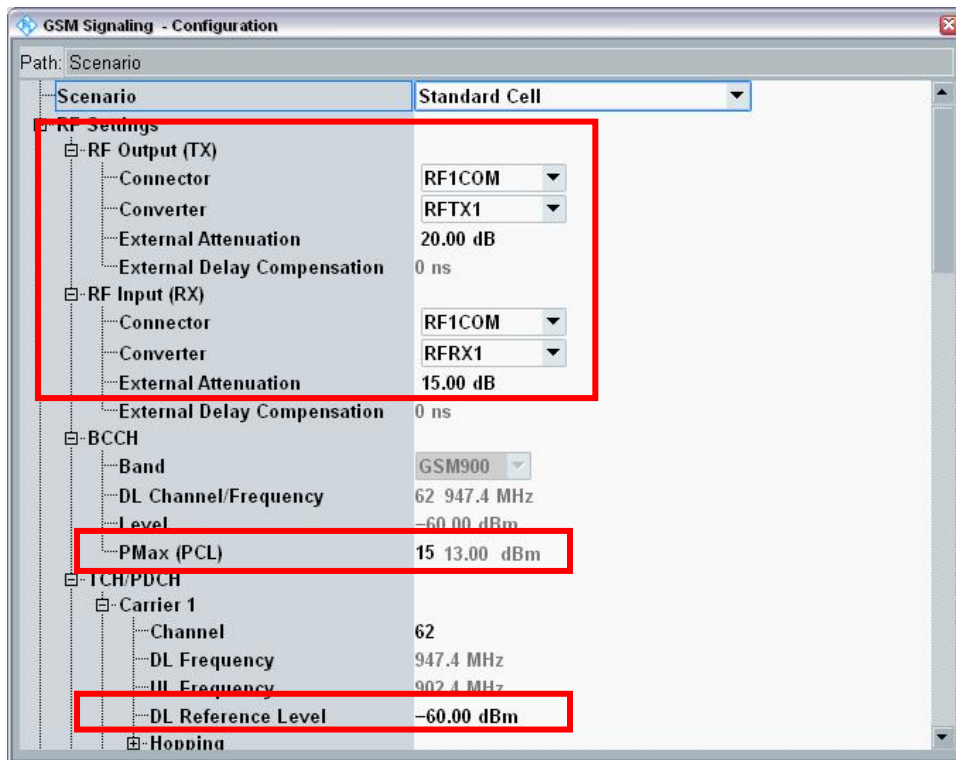

Figure 32: GSM Configuration
3. Set the **RF Output (TX)** and **RF Input (RX)** settings according to the attenuation of the antenna and antenna cable (**External Attenuation** in Figure 32).